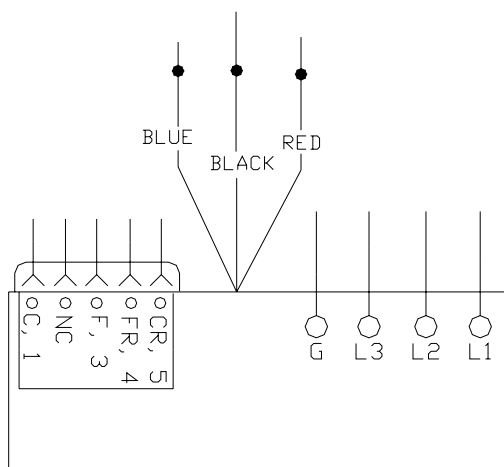

Figure 12. Variable Speed Fan Inverter
- 6 Remove connector P1 or P2 (whichever applies) from the inverter and place a jumper wire between terminals F and FR on the female connector. See Figure 12 for the location of these wires. This will prevent the control from reporting a fault diagnostic. Restart the unit and carefully measure the DC voltage between wires C (+) and CR (-) on the same female connector. The voltage should be 2 to 10 VDC when the compressor on the affected circuit is running. At compressor start, this voltage will be approximately 2 VDC and gradually ramp up to about 10 VDC. This voltage level is directly proportional to fan speed. At 5 VDC, the fan should be running at 50% of full speed and at 7 VDC the fan should be running at 70% of full speed.